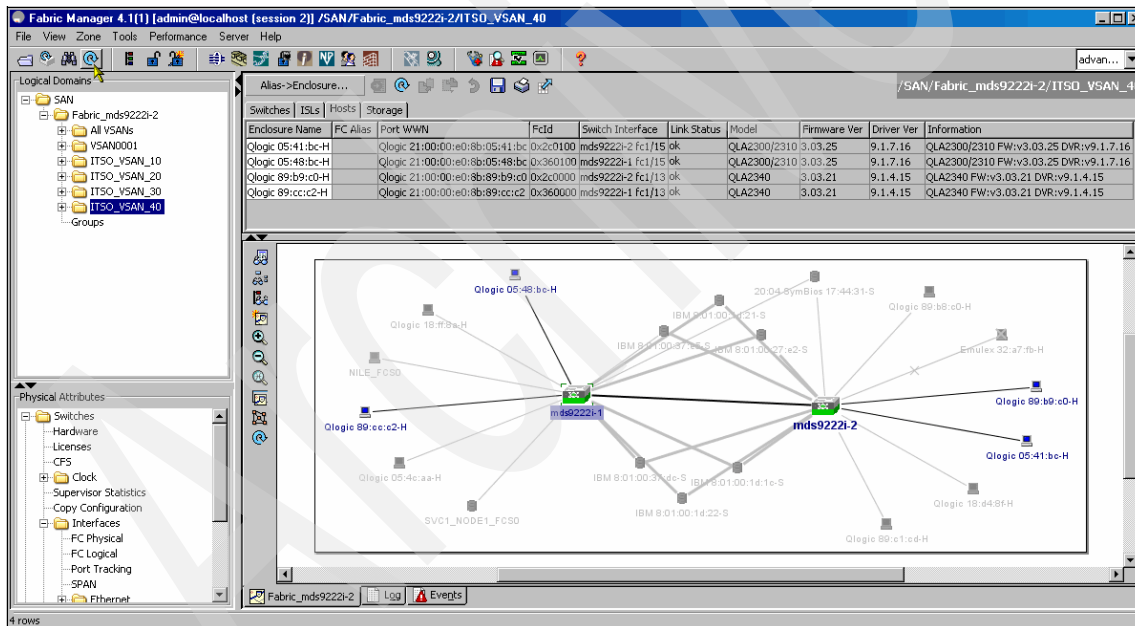

Figure 6-41 Listing ports in the our new VSAN
4. When this is completed, list the ports in our VSAN, as shown in Figure 6-41, and the VSAN is now up, since active ports are present in the VSAN.